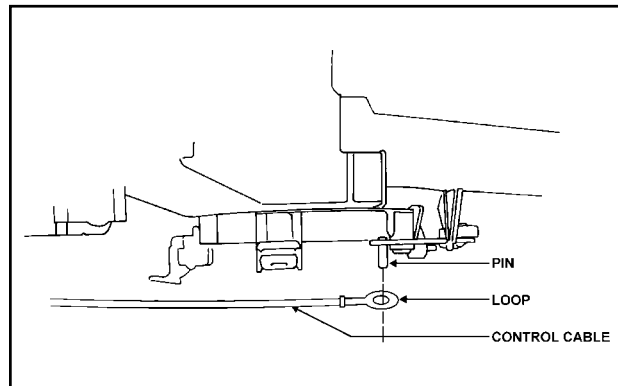

Figure 74: Removing Control Cable
- 2) Remove control cable from heater unit. (Fig. 74)